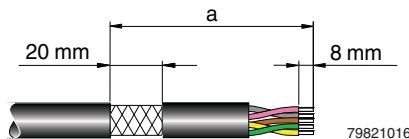

Fig. 8-8 Connecting the shielded cable
- Strip approximately 20 mm off the outer sheath of the cable at the required distance from the end of the cable (a in Fig. 8-8). The necessary distance a depends on the distance to the busbar.